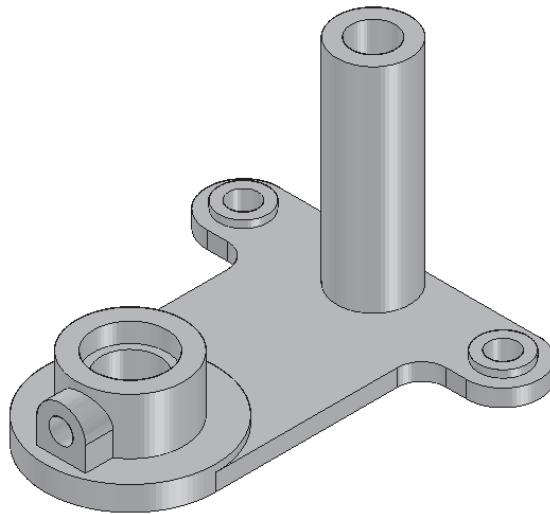

Figure 8-78 Model after adding holes
- Add holes to the model, refer to Figure 8-78.
- Create holes in the model, as shown in Figure 8-78.